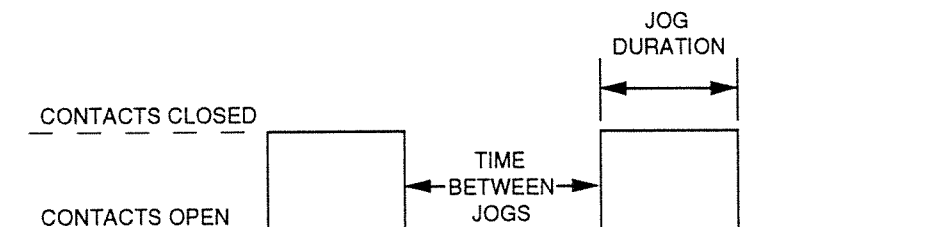

FIGURE 4 Time Between Jogs and Jog Duration Diagram
4. Measure the time between jogs (see Figure 4). Measured times should be $\pm 20\%$ of setting.